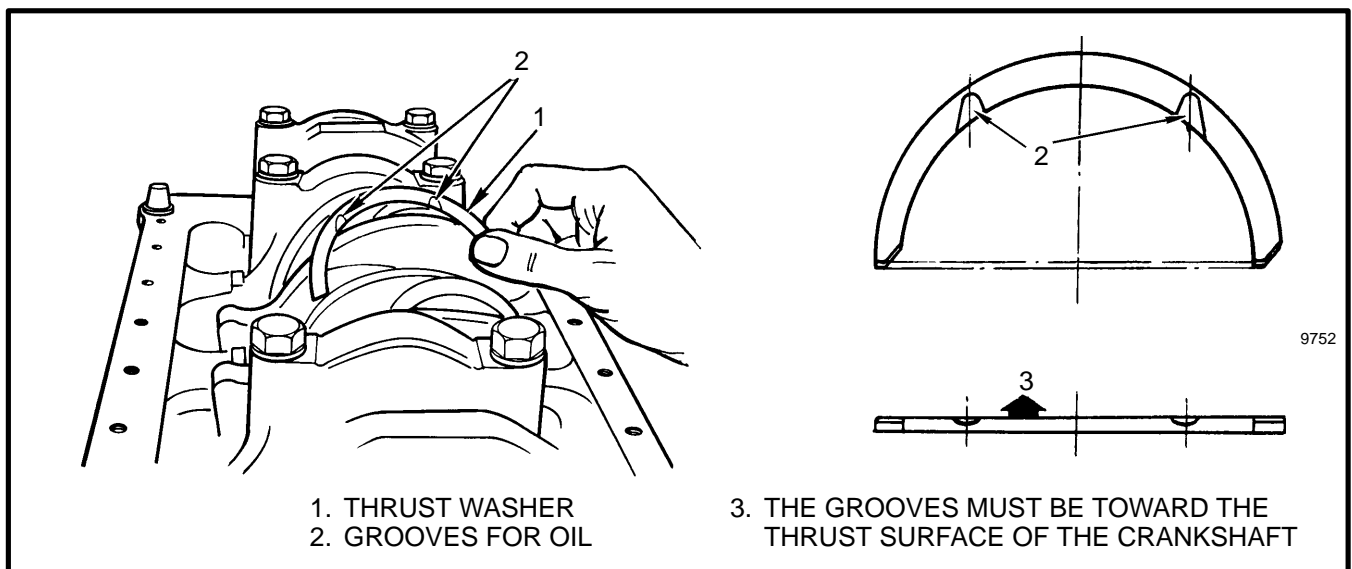

FIGURE 37. INSTALLATION OF THE THRUST WASHERS
4. Install the thrust bearings at the No. 3 main bearing location. Make sure that the grooves for oil in the thrust bearings are toward the crankshaft. See FIGURE 37. Push one end of the thrust bearing until both ends are even with the surface of the crankcase.